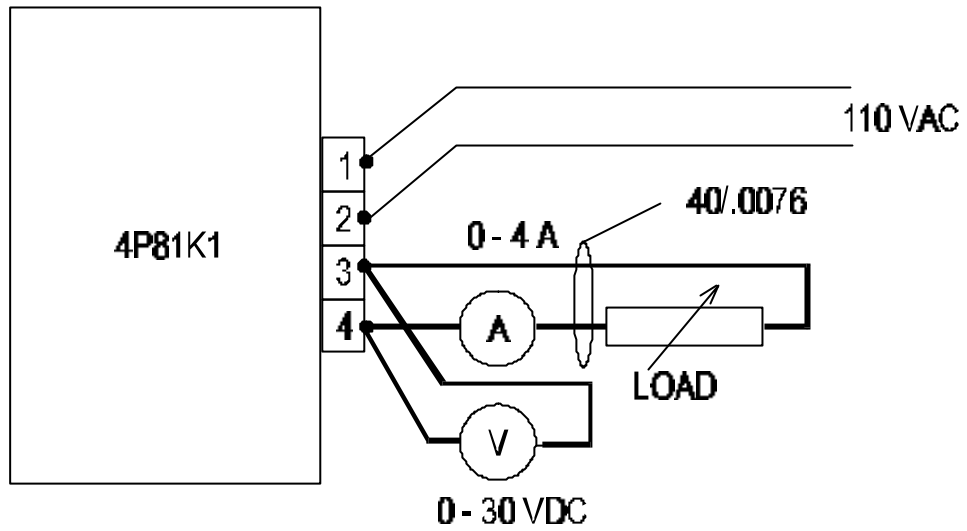

FIGURE 1
- a) Connect the power supply as shown in fig 1.